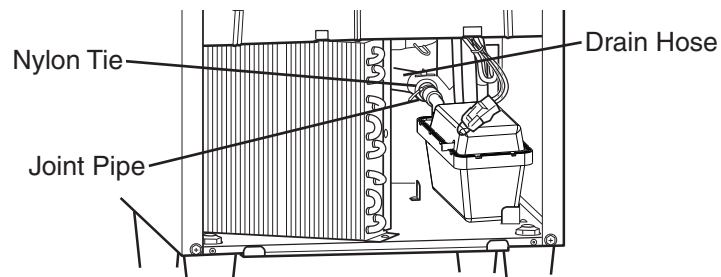

Fig. 8
9) Connect the icemaker drain hose to the joint pipe and secure with a nylon tie. See Fig. 8.